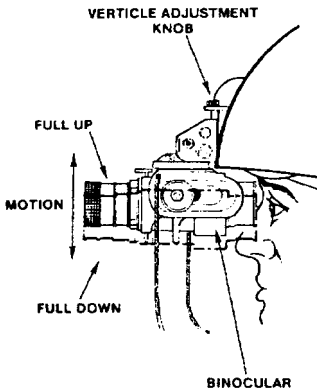

Figure 2-14. Vertical Adjustment Knob.
(3) Turn the vertical adjustment knob (fig. 2-14) to center the eyepieces in front of your eyes. Minor readjustment may be needed after adjusting the tilt.